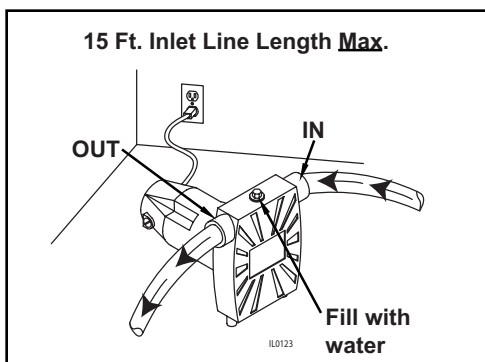

Figure 2
3. Figure 2 shows a typical installation. Threaded adapters are furnished for attaching garden hose where conditions permit its use. In no case should the pump be more than 15 feet above or away from inlet source. Use of foot valve on inlet line is recommended.